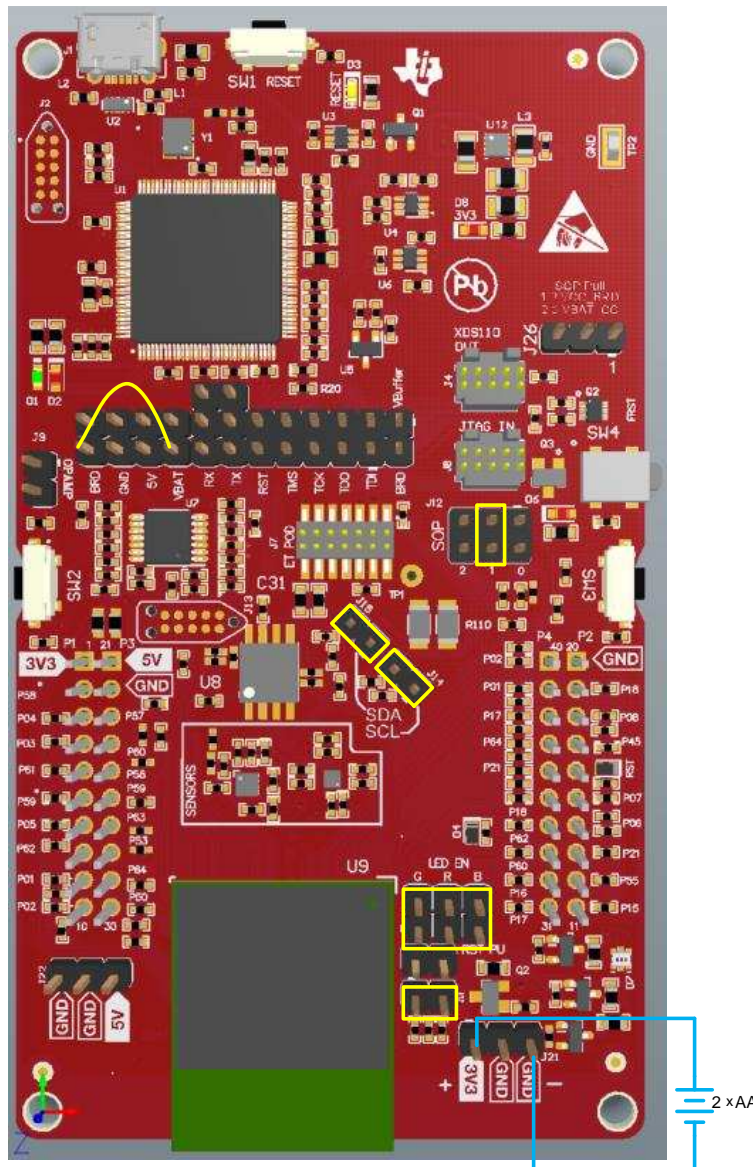

Figure 1-36. Battery Power
- Plug in the battery pack on J20 with correct polarity (see Figure 1-36).